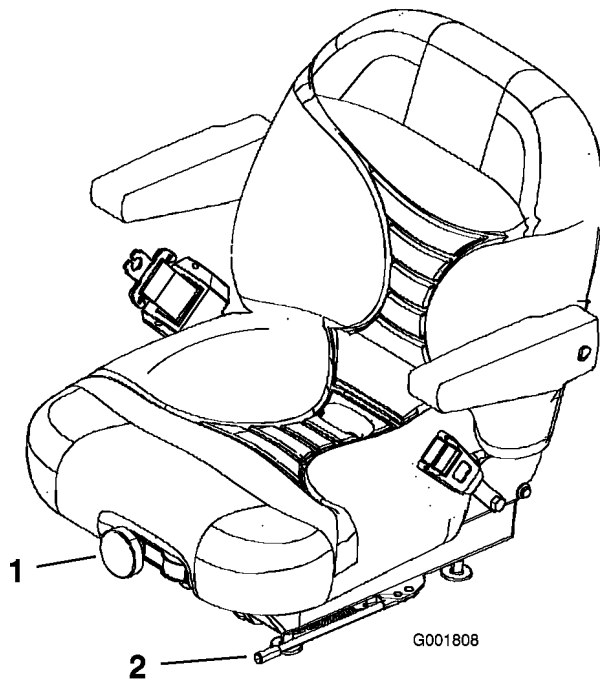

Figure 28
1. To adjust, move the lever sideways to unlock seat (Figure 28).
To adjust it, turn the knob in front either direction to provide the best comfort (Figure 28).